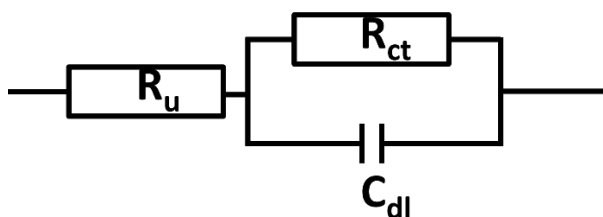
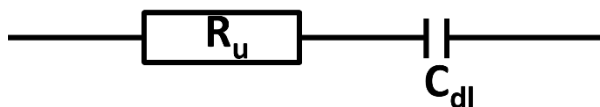

Figure 5 Randles Circuit
Figure 7 Circuit model for potential step
The current interrupt method performs an additional small measurement between two points of a measurement. The current is interrupted for a short moment. Consider the Randles circuit (see Figure 5) as representing the cell, so we have a parallel resistor and capacitor (RC) and a series resistor R. The latter is the R_u . When the current is interrupted, the potential across R_u immediately drops to 0, while the capacitor in the RC slowly decays. The drop of the potential is measured, and R_u calculated. These processes are very fast and usually require hardware with fast data sampling.
When an ac voltage is applied across the circuit in Figure 5, the impedance that depends on the frequency of the ac voltage. We are only interested in the R_u , which is frequency independent. The other resistor R_{ct} has a frequency-independent impedance too, but the capacitor C_{dl} 's impedance depends on the frequency. The higher the frequency, the lower the impedance of C_{dl} . At sufficiently high frequencies all current will flow through R_u and C_{dl} , but C_{dl} contribution is negligible, so you only see R_u in the spectrum. As higher frequencies may have stray capacitance effect (i.e., unwanted capacitance from cables or other metal surfaces), it is advisable to measure a full spectrum and acquire the R_u by equivalent circuit fitting. In the following video tutorial we explain how to perform equivalent circuit fitting:
that the R_{ct} can be removed from the Randle circuit (Figure 5). This leads to an even simpler circuit as shown in Figure 7.
When you want to perform this technique, you need to consider multiple parameters. You need to avoid a Faraday reaction current, otherwise you have an additional current pathway across R_{ct} (see Figure 5). A low time constant τ will lead to inaccuracies because the charging is happening too fast. You need software that allows you to perform linear regression.